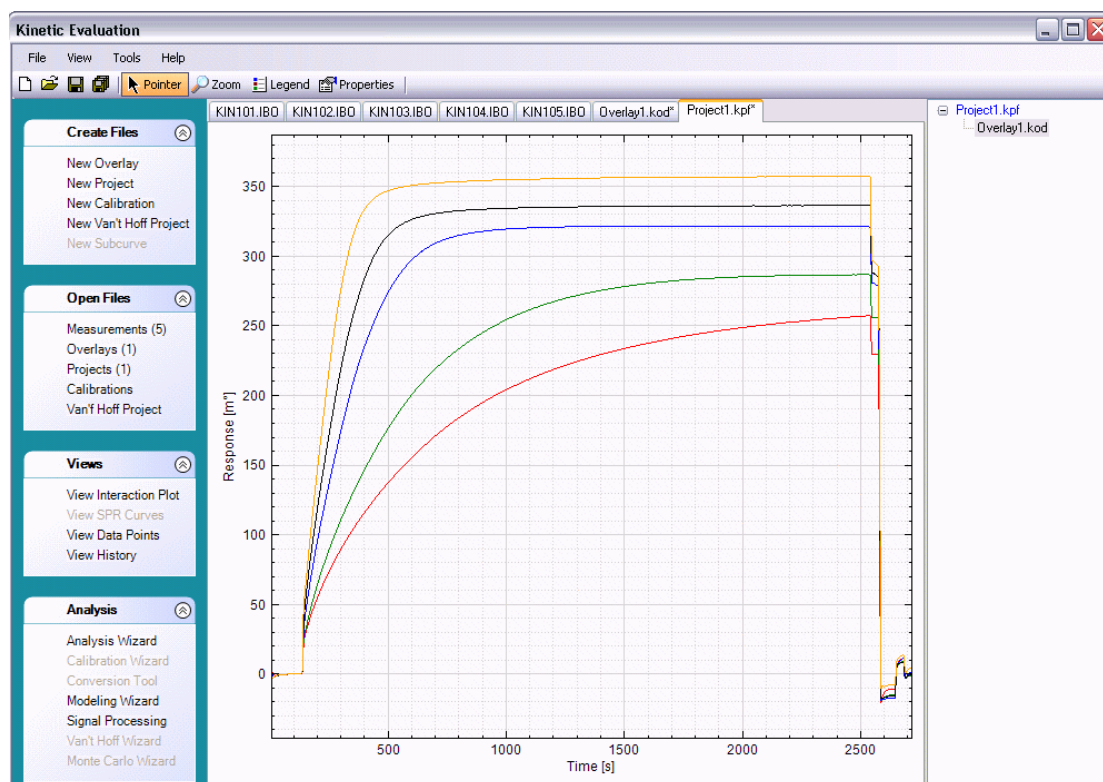

Figure 3.13 - The New Project File
- c.) The new Project will be created and displayed in the KE application as shown in Figure 3.13. A copy of the Overlay has been added to the Project. Any changes to the Overlay in the Project file will not affect the original Overlay file.